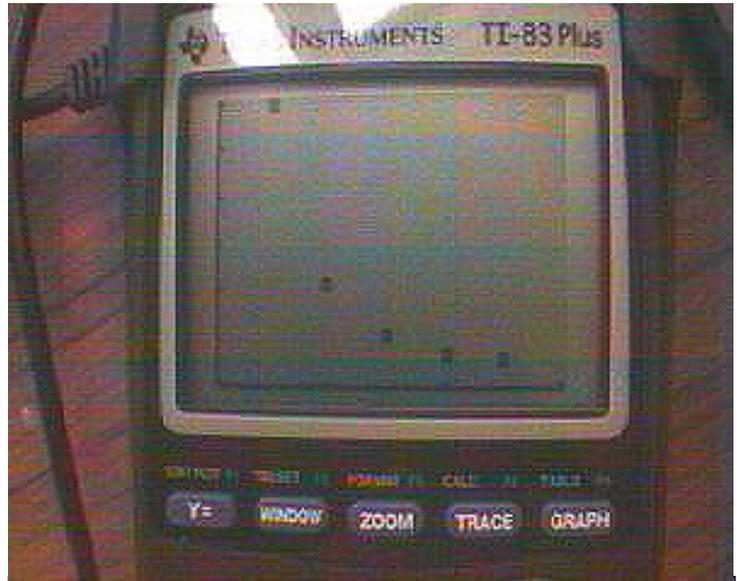

Fig. 6 Screen showing plot of 5 data points.
- Press "GRAPH" to see a plot of this data. You may need to adjust the window to better display the plot. (To do this, press "WINDOW" and then scroll through the selections to modify things accordingly. See instructions that come with calculator.) See Fig. 6 for a shot of a sample plot.